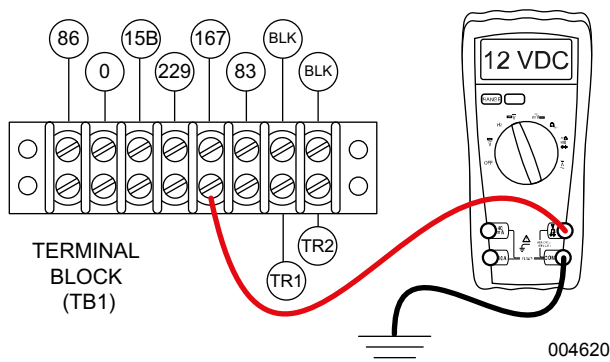

Figure 4-44. Test Wire 167, Steps 6-8
6. See **Figure 4-44**. Connect the positive test lead to wire 167 at terminal block 1 (TB1).